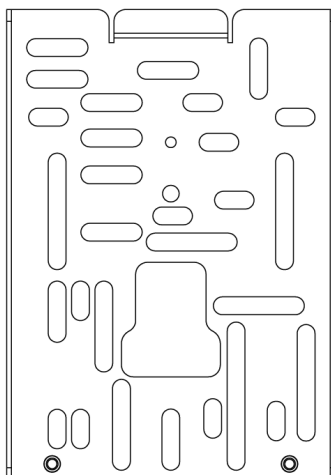

Figure 4. Universal Wall Bracket
1. Mount the universal wall bracket, shown in Figure 4, using the two screws provided.